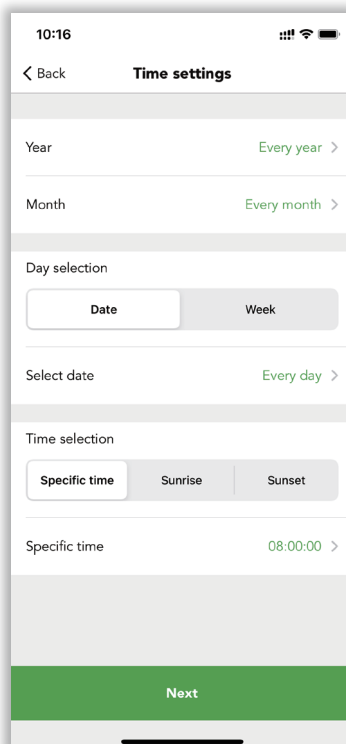

Figure 6.6 Time setting in schedule
2. Create an 8:00 am schedule to recall this scene (see figure 6.6).